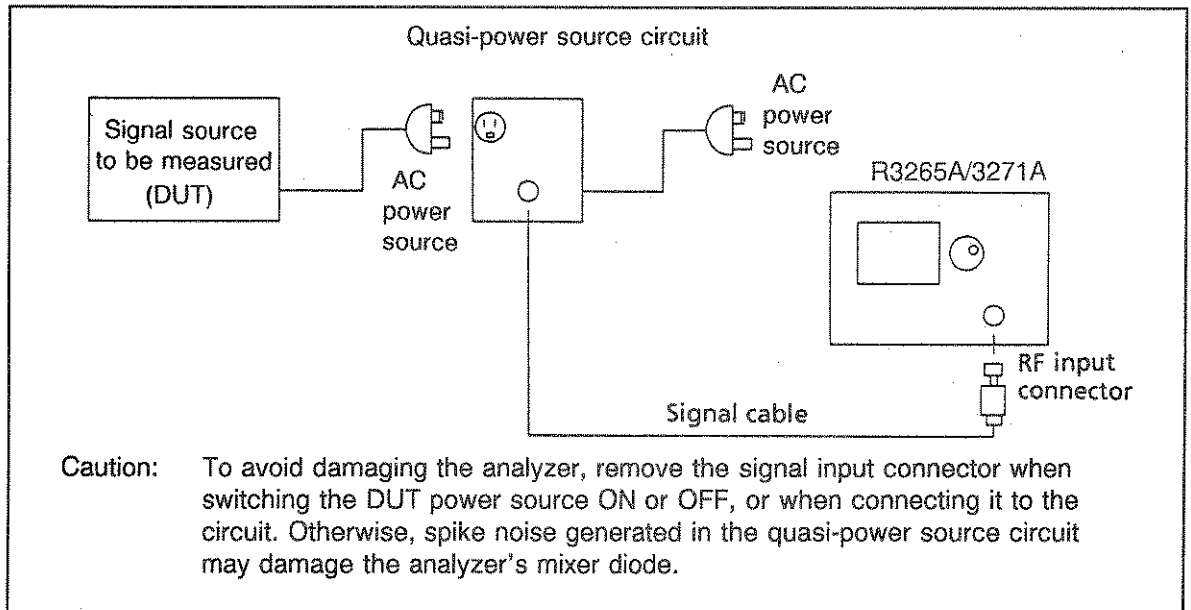

Figure 5.11-7 Measuring the Power Source Terminal Voltage
- ① Connect the signal source to be measured (the DUT) as illustrated in Figure 5.11-7.